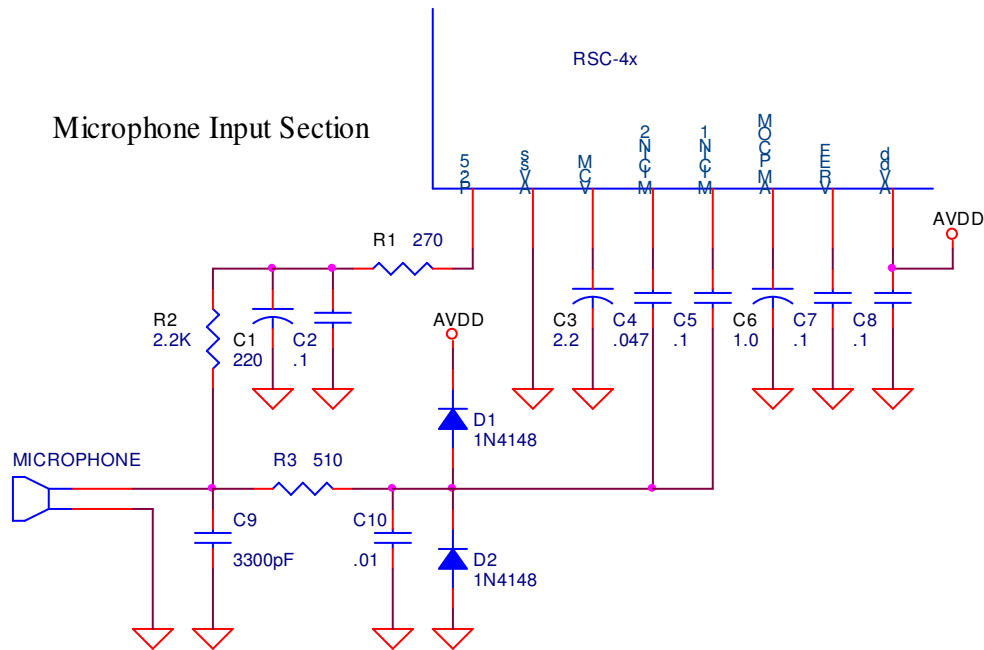

Figure 4 - Diagram for RSC\_4x Analog Section
- RSC\_4x Reference Circuit** - The diagram in Figure 4 shows the microphone input circuit and the required external components and their connections to the RSC\_4x for the internal pre-amplifier circuit. The components for the circuit are listed in Table 1.
1. **Separation of Digital and Analog** - The circuit board should be physically organized to allow the largest practical separation of the analog from the digital portions of the system. All of the grounds shown above in figure 4 are analog. They should be kept separate from all other grounds. The analog and digital grounds should only meet up at the main ground source (usually a battery or regulator). This technique is commonly referred to a “star grounding”. Digital traces can be made around the power traces and the data line traces, but should avoid analog traces.
- a) The RSC-4x to be tested with recommended microphone circuitry as show in Figure. 4,